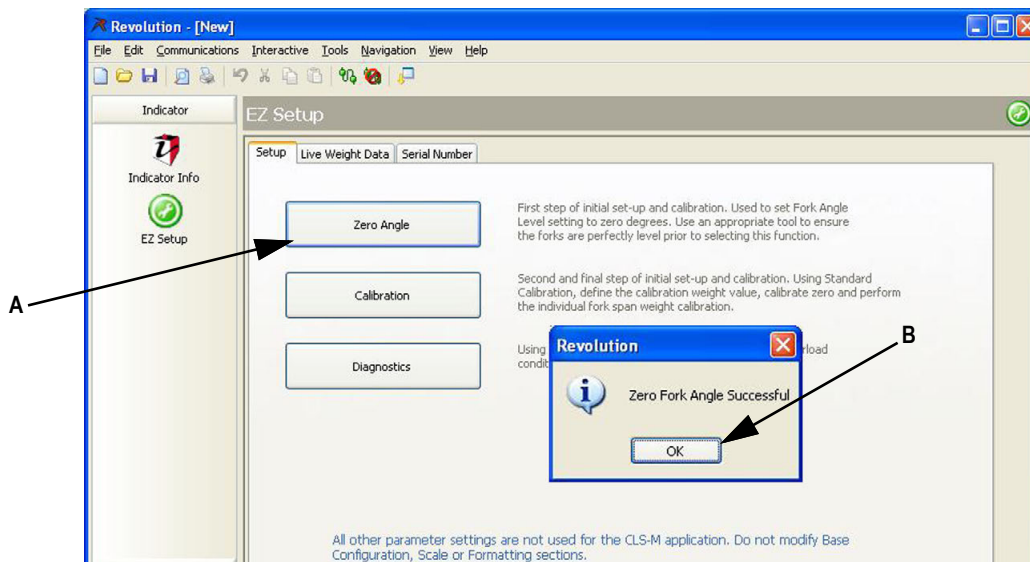

Figure 5-2. Zero Forks
2. In the setup screen, press **Zero Angle** (Fig 5-2 A).
3. A pop-up appears as shown in (Fig 5-2 B), press **OK** to close pop-up box.